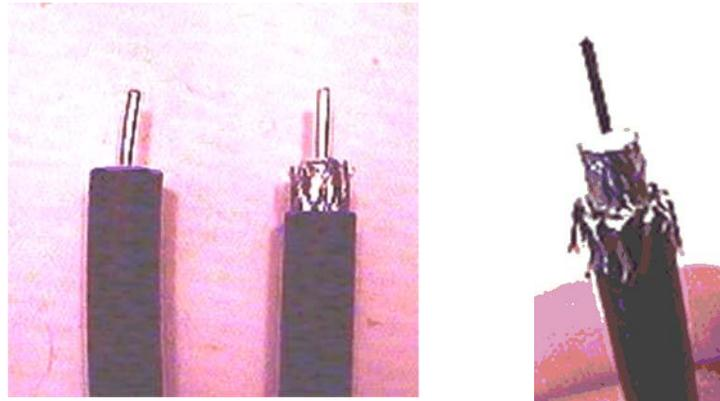

Figure D-3. Folding the Braid
- Fold the braid back over the jacket and trim the braid to the length as defined under Length C in Table D-1 on page 34 and shown in Figure D-3.